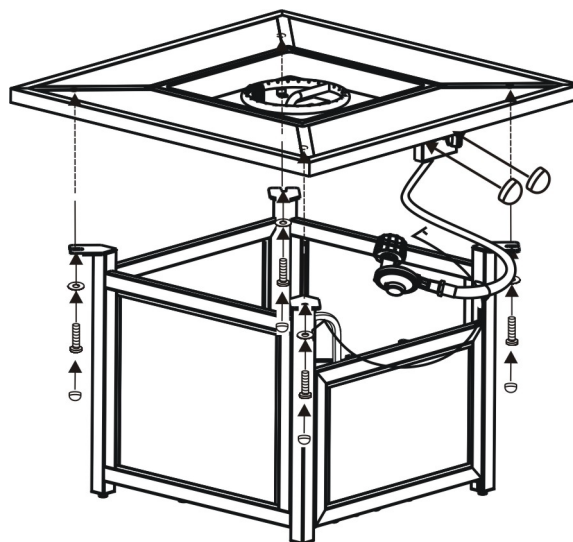

Figure 6
6. With the help of another person, carefully place the firepit tabletop onto the firepit base. After making any necessary adjustments to the alignment of the tabletop and the assembled base, use four 1/4"x20 mm bolts and Ø20xØ6.5x2.0 mm washers as shown in Figure 6. Guide the bolts through the holes in the base brackets, into the pre-drilled holes in the tabletop. **Do not tighten completely.**